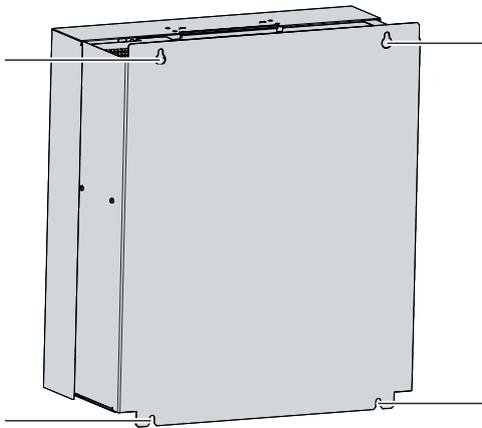

Fig. 15: C6675_control cabinet installation
2. Hang the PC on the screws at the marked points of the mounting concept (see Fig. 15).